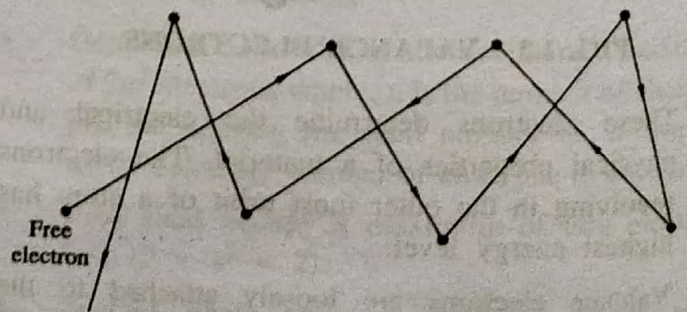

FIG. 1.8 : ABSENCE OF THE ELECTRIC FIELD - FREE ELECTRON
- The gas molecules moving in a vessel as shown in Fig. 1.8.